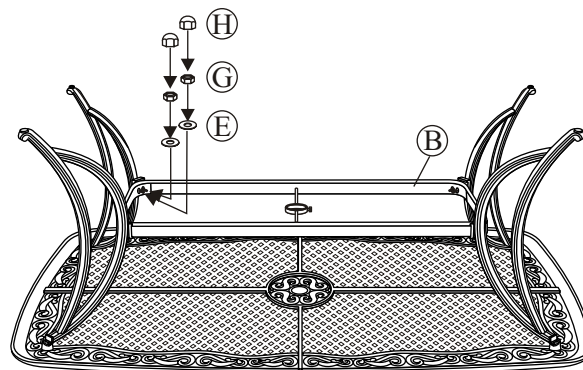

Fig.2
2 Critical Step: The "U" metal plates must be installed in the proper location. Read this step and carefully examine. Insert the "U" metal plate, so that the "U" bar and rocker plate are between both sides of the "U" metal plate. Make sure that the holes in the "U" metal plate are completely aligned with the holes in the "U" bar as shown in **Figure 2**. Guide the bolts through the holes on the top side of the "U" metal plate, through the holes in the "U" bar portion of the chair, through the holes in the rocker plate and then, most importantly, through the holes in the bottom side of the "U" metal plate. It is very important that the holes in the bottom portion of the "U" metal plate be placed directly beneath the holes in the rocker plate. Add a spring washer and a nut to each bolt as shown in **Figure 2**. **Hand tighten nuts 3-4 revolutions only.** Repeat the same procedure on the other side.
Step 3: Attach a leg to the leg connector bracket by carefully guiding the bolts already in place on the table legs (each leg has two bolts) through the holes in the leg connector bracket. Add a washer and a nut to the end of each bolt as shown in Fig.2. **Hand tighten only. Do not tighten completely.** Repeat on the other three legs.